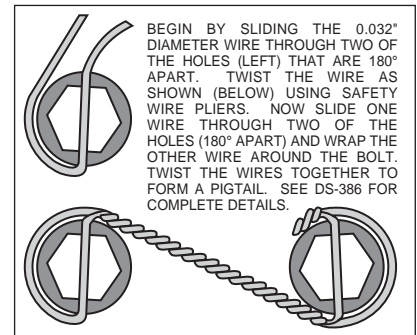

Figure 3. Safety Wire Diagram
- Apply red *Loctite*® 271 to bolt threads (2) before assembly of the caliper bracket (1) to backing plate face of spindle. Position the caliper mounting bracket (1) onto the spindle while positioning spacers (3) between bracket and spindle face. Slip the mounting bolts (2) into the threaded spindle holes, finger tighten. Torque two bolts (2) to 30 ft-lb. **NOTE:** Be sure the heads of the caliper bracket (1) insert nuts are facing outward toward the wheel.
- Install five new wheel studs (4) into the hub (5). Torque to 77 ft-lb. **NOTE:** There are two five lug patterns in the hub (5 x 4.50 and 5 x 4.75). Make sure of the correct hole pattern for the correct wheel application before installing studs into hub.
- Pack the large inner bearing cone (6) with high temperature disc brake bearing grease (available from your local auto parts store) and install into the backside of the hub (5).
- Install the grease seal (7) by pressing into the backside of the hub (5).
- Attach rotor adapter (8) to rotor (9) using six bolts (10). **NOTE:** The flat side of the rotor (8) lugs face toward the rotor adapter (9) with the dished side of the rotor adapter (8) facing away from the rotor (9). Using an alternating sequence, apply red *Loctite*® 271 to the threads and torque bolts to 25 ft-lb. For an added measure of security, the bolts may be safety wired using standard 0.032 inch diameter stainless steel safety wire as shown in Figure 3. Please refer to Wilwood's data sheet DS-386 for complete safety wire installation instructions.